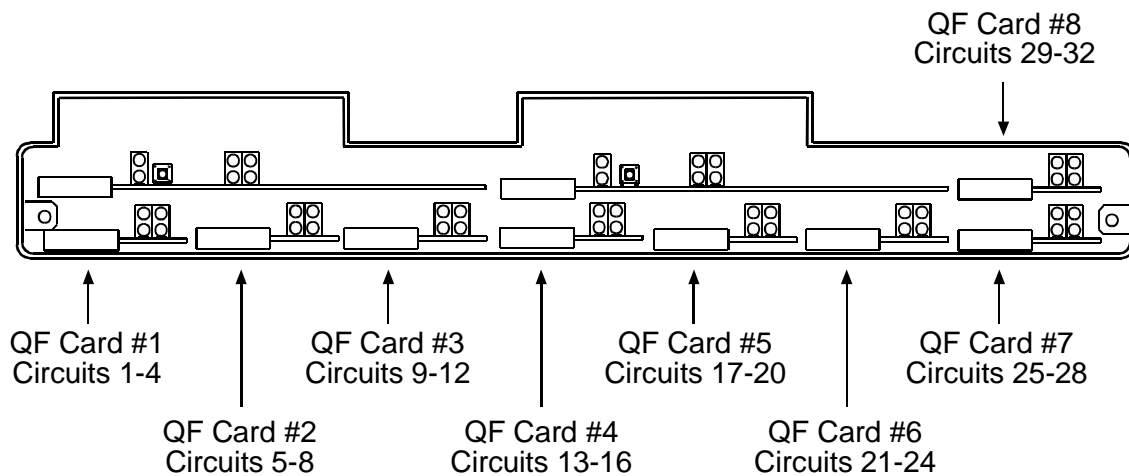

Figure 16-10. Location of Quad T1 Framer Cards
Each Quad T1 Framer card contains four DS1 circuits. DS1 circuit numbers are determined by the QF card slot (see also Figure 16-10):
1. Locate old Quad T1 Framer card to be replaced (see Figure 16-10).